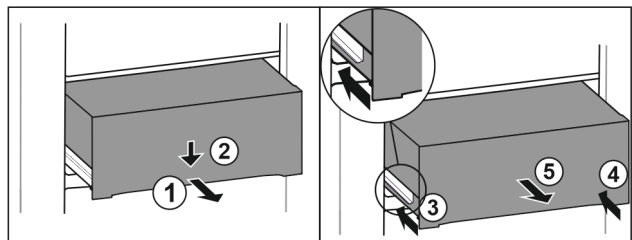

Fig. 171
- ▶ Pull out drawer half-way. Fig. 171 (1)
- ▶ Push the drawer down at the front. Fig. 171 (2)
- ▶ Push the left rail in by about 2 cm. Fig. 171 (3)
- ▶ Push the right rail in by about 2 cm. Fig. 171 (4)
- ▶ Remove drawer to the front. Fig. 171 (5)